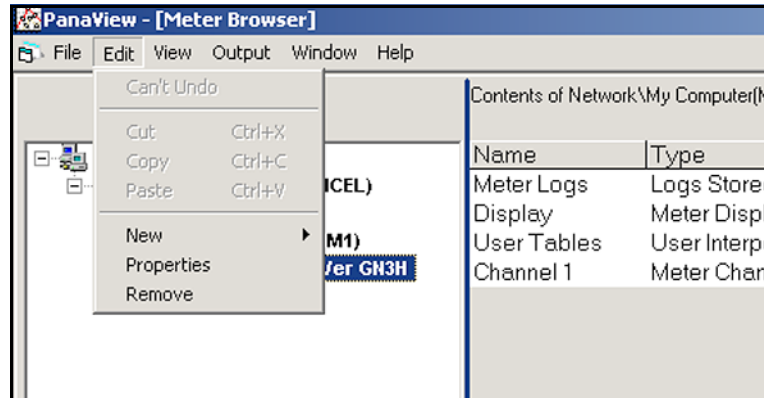
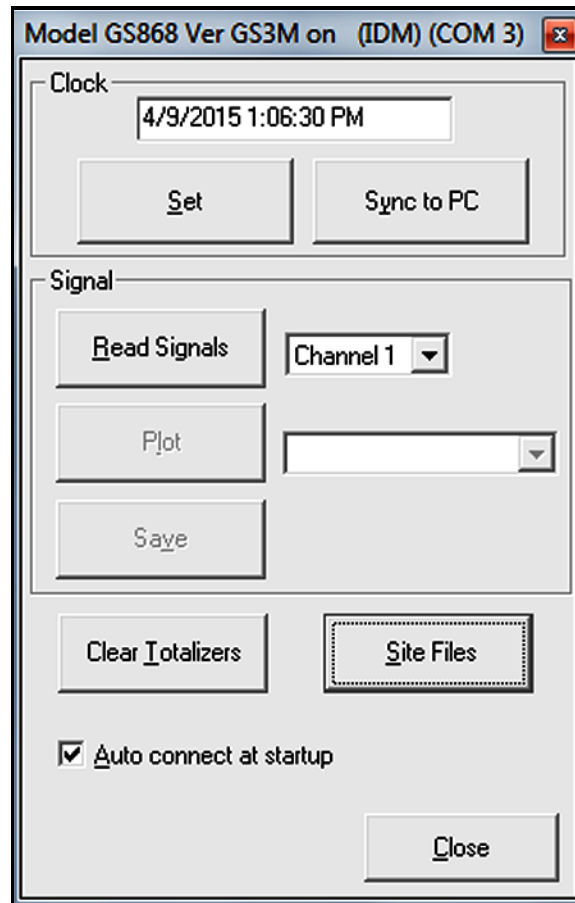

Figure 55: The Edit Menu
Figure 56: Meter Settings
- With the desired meter highlighted, open the “Edit” menu as shown in Figure 55 below.
1. From the “*Edit*” menu shown in Figure 55 on page 46, click “*Properties*” option to open the dialog box shown in Figure 56 below.
6. Four of the Meter Communication Parameters may be edited by selecting one of the alternate choices in the list boxes shown in Figure 56 on page 47. See "Adding a New Meter" on page 33, for a discussion of these parameters and the available options.
1. From the "Edit" menu shown in Figure 56 on page 47, click "Remove" option to open the dialog box shown in Figure 58 below.